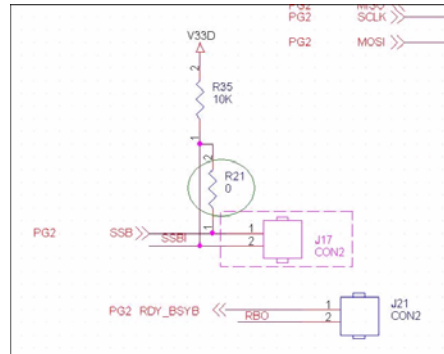

Figure 3-3 ISD-ES15100_PROG
- ISD-ES15100_PROG (Figure 3-3)